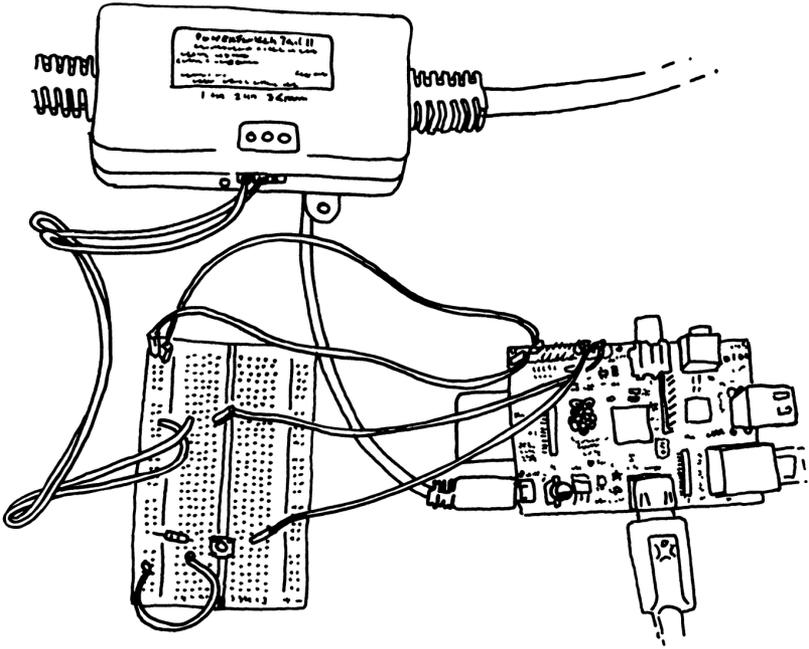

Figure 7-7. Connecting a PowerSwitch Tail II to the Raspberry Pi
4. The strand of wire that connects to ground should be connected to the "-in" terminal of the PowerSwitch Tail. Compare your circuit to Figure 7-7.